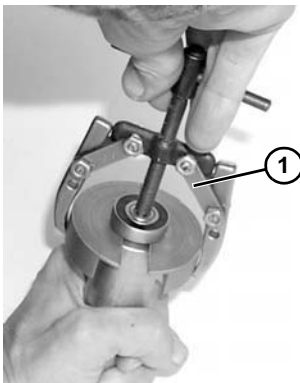

Figure 66
2. Using puller part #807-1716 (**Figure 66, item 1**), remove and discard bearing.